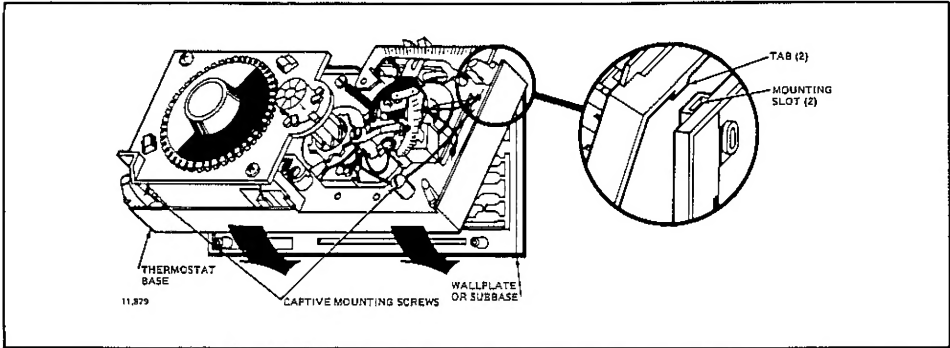

Fig. 5—Thermostat mounting.
- ☐ Insert the two captive mounting screws located in the bottom corners of the base (Fig. 5).